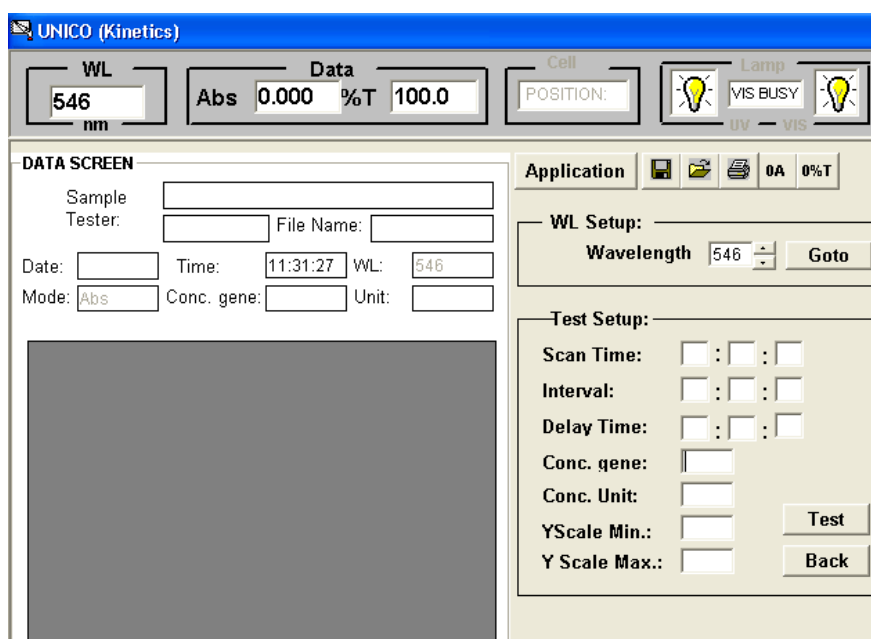
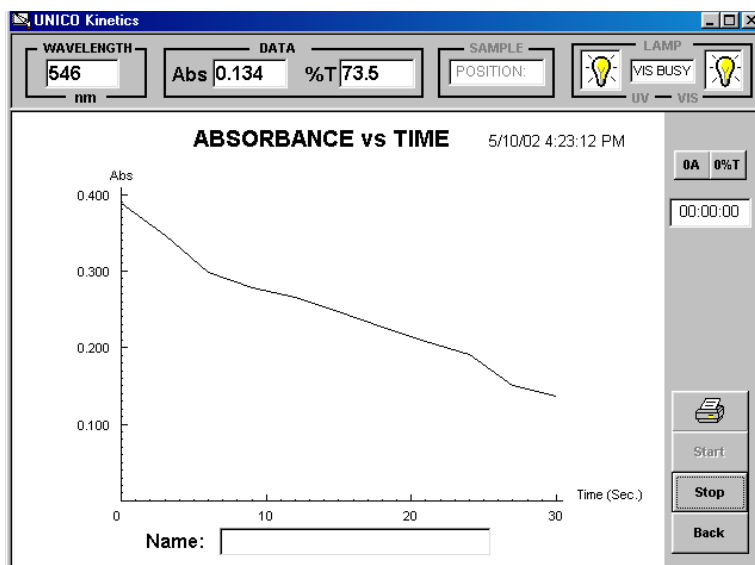

Figure-28 Kinetics Main Screen
Figure-30 Test Results of **Kinetics**
At the **Main Screen**, click **Application**, check **Kinetics**, and click **OK** button to enter the **Main Screen of Kinetics**. Type **Sample Name**, **Operator** (name), **Filename**, and **Date** into the appropriate text fields (Figure-28).
- Step 10: Click **Start** button to begin test (You may type the name of the Kinetics test in the text field at the right of the Name label, like "Water" of this sample test, see Figure-28). The test result is shown in Figure-30.